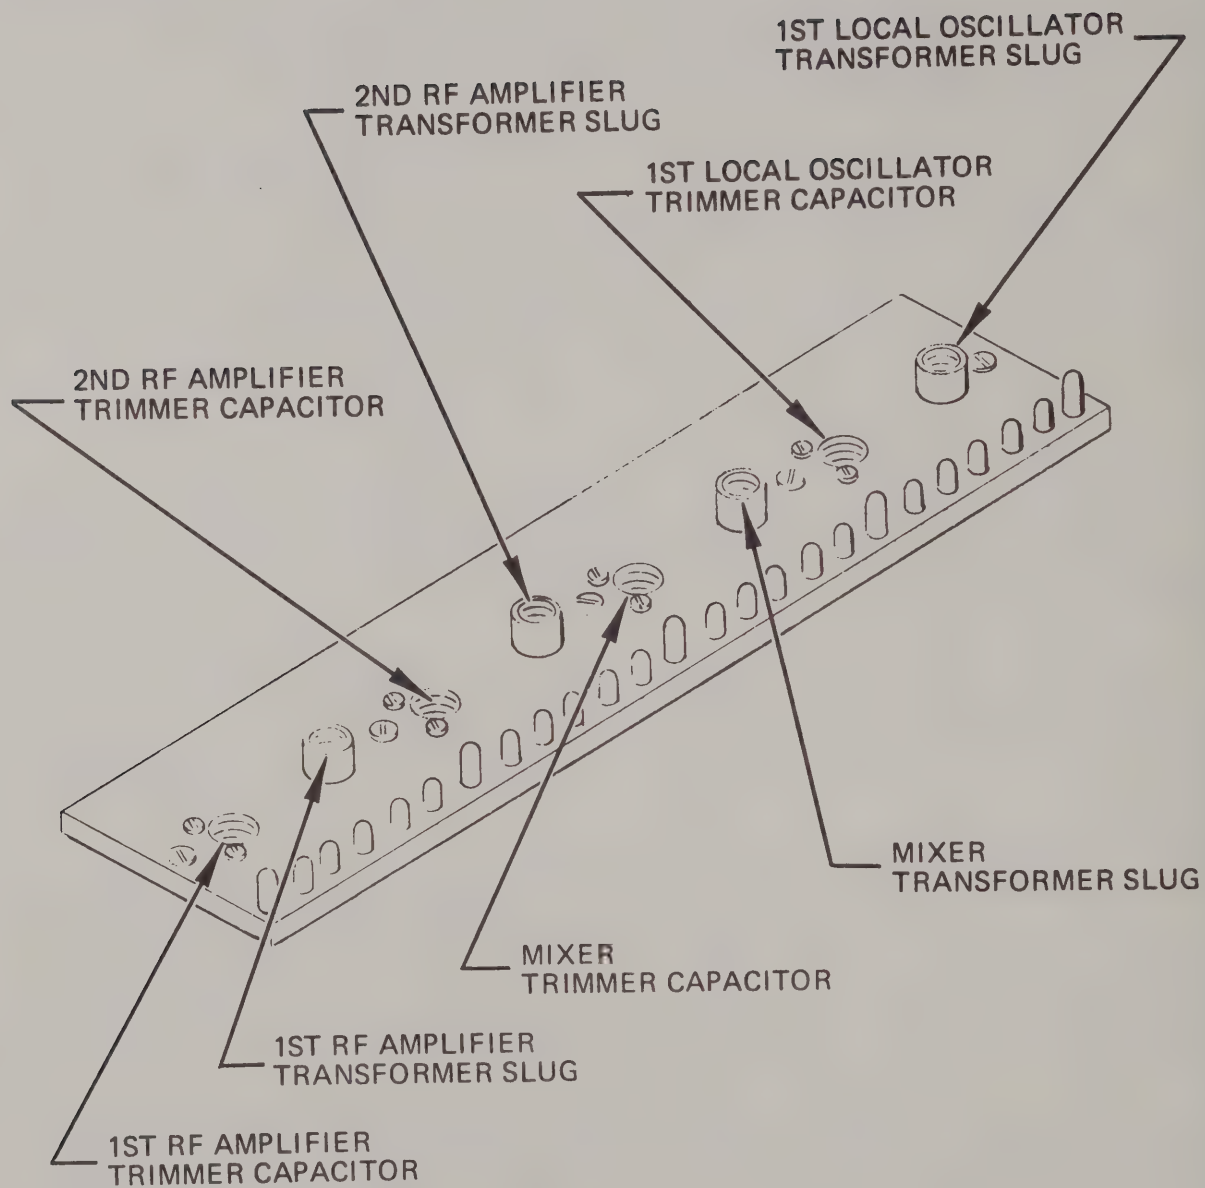

Figure 5-1. Location of RF Tuner Adjustments
g. The turret tuner strip corresponding to the selected band, and the transformers and capacitors to be adjusted are tabulated in Table 5-5. Also, refer to Figure 5-1 for the physical location of the various adjustment points on the turret tuner strip.